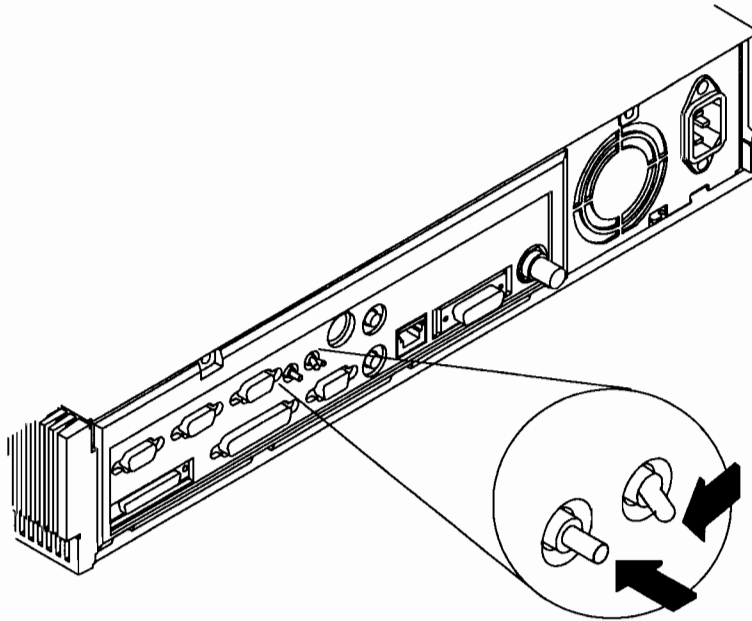

Figure 10-4. Starting Up a Diskless Workstation in Service Mode
1. Before the system finishes the self tests, first set the Service/Normal mode switch to Service mode, and then press the Reset switch as shown in Figure 10-4. Press the <RETURN> key until the screen displays the Mnemonic Debugger (MD) ">" prompt as shown in Figure 10-5.